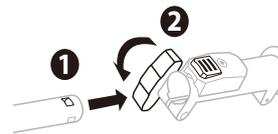

Fig.2B
3. Align the installation hole on the attachment shaft with the arrow on the power head shaft and push the attachment shaft into the power head shaft until you hear a “click” sound, which means that the attachment shaft is mounted into place (Fig.2B, 1).
5. Tighten the wing knob firmly (Fig.2B, 2).